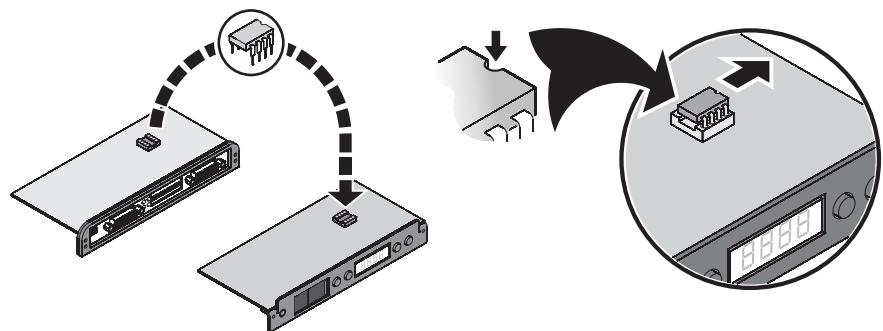

Figure 3
5. See Figure 3. An 8-leg EEPROM chip on the main PCB holds the panel's LED tube calibration data. Transfer it from the old PCB to the new one. Chips are marked with a cutout (arrowed) at one end. Insert the chip into the chip socket so that this